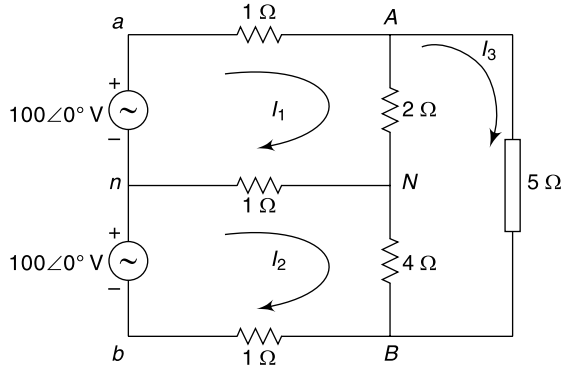

Fig. 14.61
14.76 Three loads, $2\ \Omega$, $4\ \Omega$ and $5\ \Omega$ are connected across the ac lines as shown in Fig. 14.61. The resistances of the lines as well as the neutral has value of $1\ \Omega$ each. Obtain the amount of power delivered to each of the three loads as well as the power loss in the neutral wire and the lines.